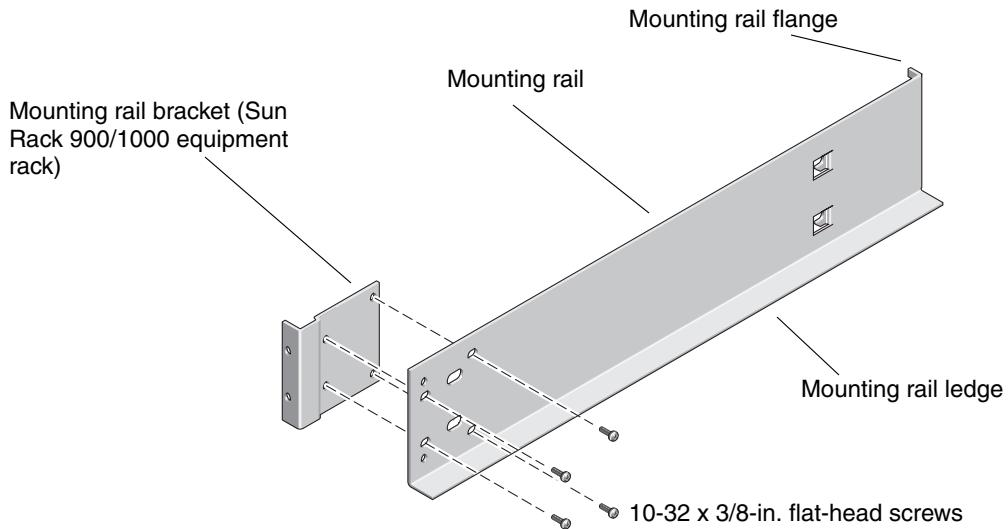

FIGURE 4-7 Mounting Rail Assembly (One of Two) for the Cabinets
One of two Sun Rack 900/1000 equipment rack mounting assemblies, consisting of a mounting rail and bracket, is shown in FIGURE 4-7. When mounted the director rests on the mounting rail ledge.
1. Assemble the mounting rail and mounting rail bracket as shown in FIGURE 4-7.